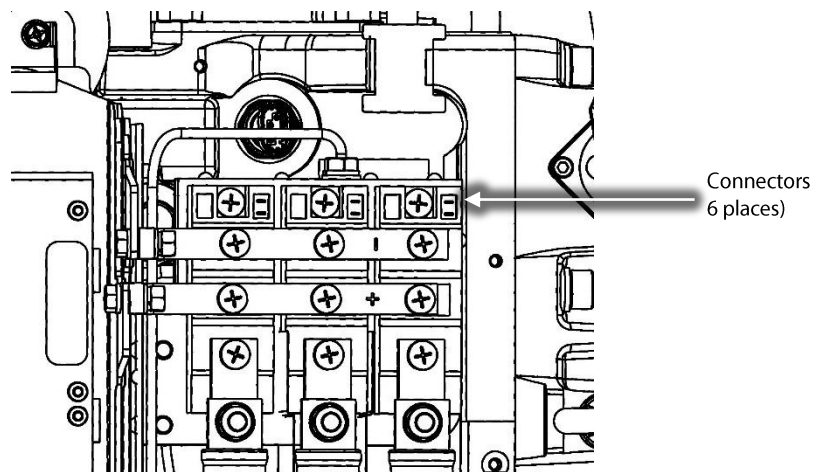

Figure 6 – Soft Start SCR Gate Cable Harness Removal
13. Unplug the Soft Start SCR Gate cable harness from the SCRs noting its orientation. Refer to Figure 6 (Soft Start SCR Gate Cable Harness Removal) for the location of the connectors on the SCRs.